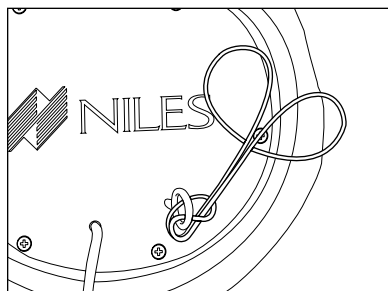

Figure 11 Security Cable Connected and Tightened
- Pull the ends of the security cable with the loops as tight as you can until the knot around the security eyelet is tightened as shown in **Figure 11**.